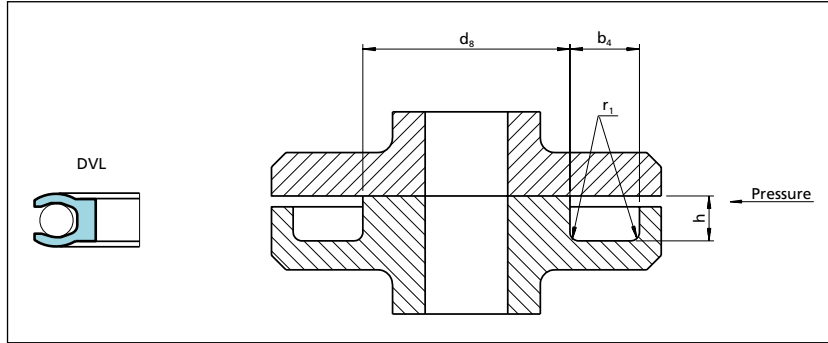

Figure 39 Installation drawing
*Please reference Figures 39 & 40.